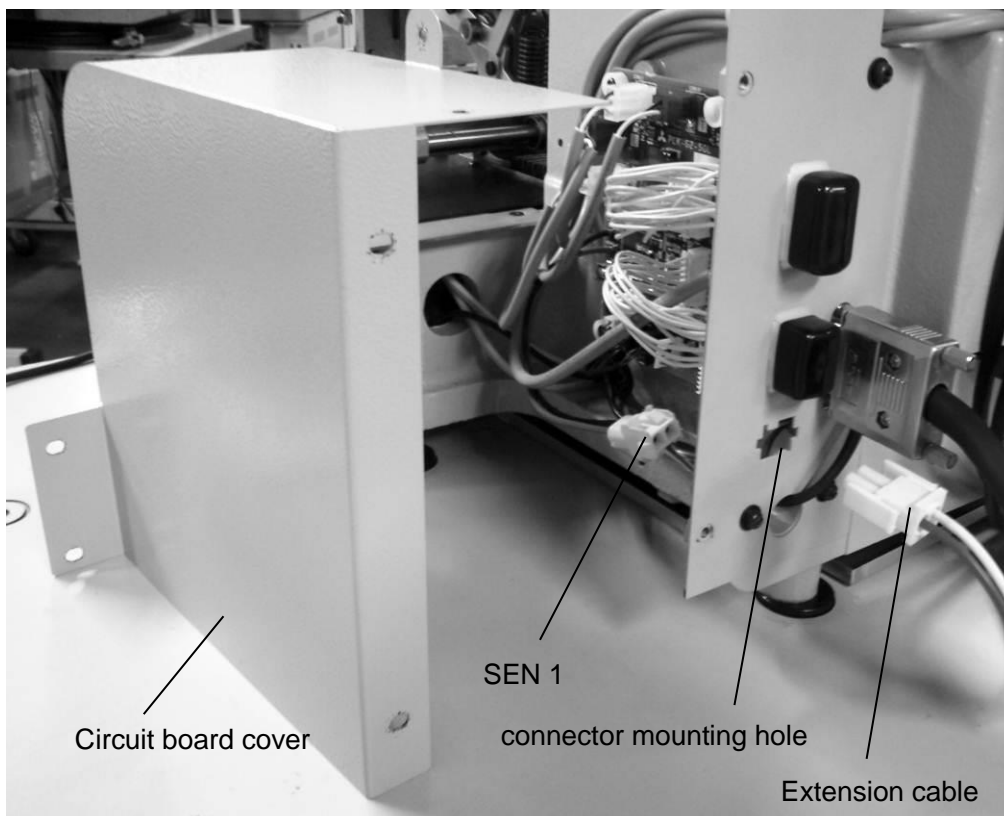

Fig.1
- (1) Turn off the power.
- (2) Remove the circuit board cover as shown in Figure 1.
- (3) Disconnect the extension cable for the power supply of the circuit board.
- (4) Remove the connector "SEN 1" from the connector mounting hole as shown in Figure 1.